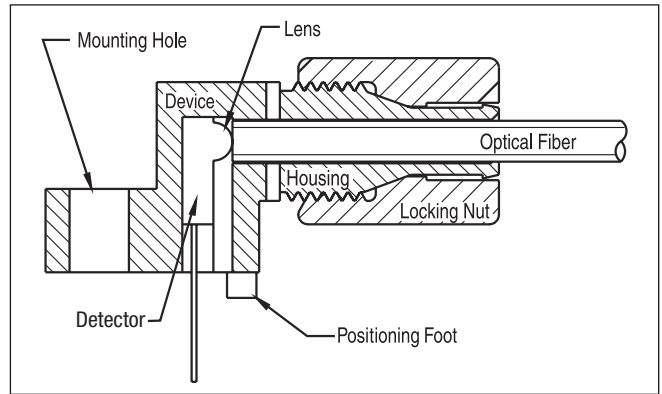

FIGURE 4. Cross-section of fiber optic device.
**FIGURE 4.** Case outline. Specifications are believed to be accurate but are subject to change. Industrial Fiber Optics assumes no responsibility for the consequences of using the information provided beyond replacement warranty for products not meeting stated specifications. Industrial Fiber Optics products are not authorized for use in life support applications without written approval from the President of Industrial Fiber Optics Corporation.